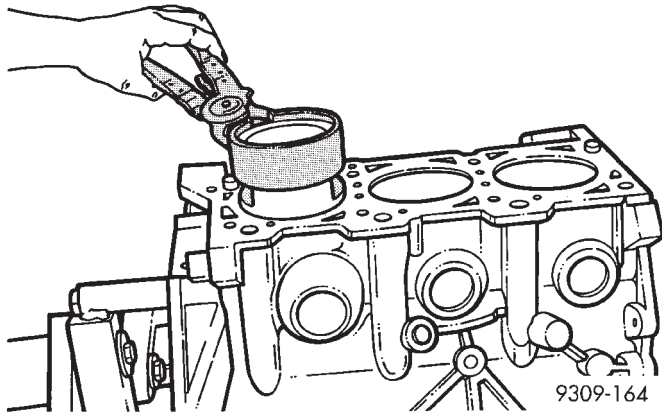

Fig. 14 Installing Piston
(2) Before installing the ring compressor, make sure the oil ring expander ends are butted and the rail gaps located as shown in (Fig. 14).